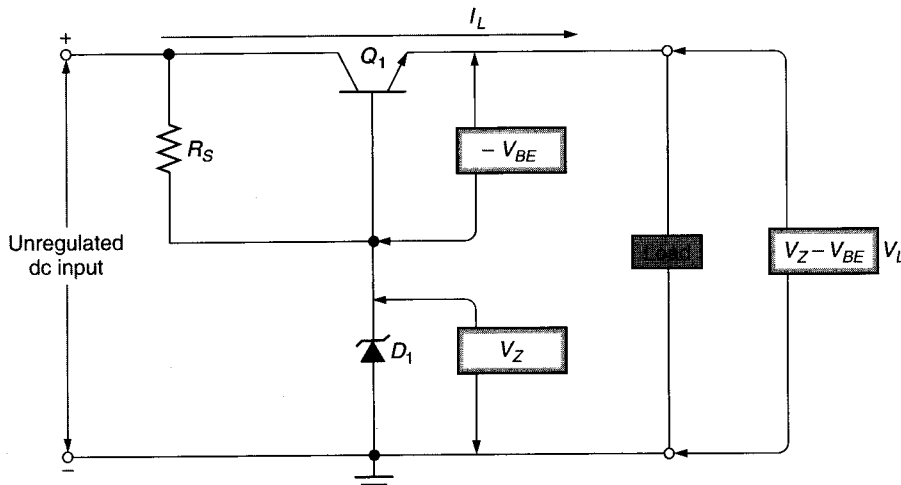
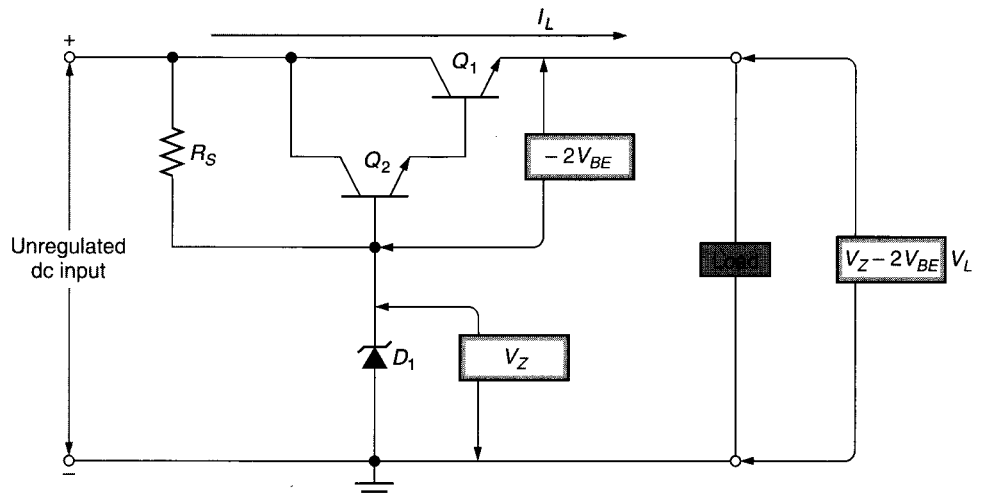

FIGURE 21.4 Pass-transistor regulator.
FIGURE 21.5 Darlington pass-transistor regulator.
The **pass-transistor regulator** uses a series transistor, called a *pass-transistor*, to regulate load voltage. The term *pass-transistor* is used because the load current passes through the series transistor,  $Q_1$ , as shown in Figure 21.4.
The pass-transistor regulator in Figure 21.4 has relatively good line and load regulation characteristics, but there is a problem with the circuit. If the input voltage or load current values increase, the zener diode may have to dissipate a relatively high amount of power. You see, increases in  $V_{in}$  or  $I_L$  result in an increase in zener conduction. The increased zener conduction results in higher power dissipation by the device. This problem is reduced by the use of the *Darlington pass-transistor regulator*.
The **Darlington pass-transistor regulator** uses a Darlington pair ( $Q_1$  and  $Q_2$ ), in place of a single pass-transistor, as shown in Figure 21.5. The load voltage for the Darlington circuit is found as
Since the total current gain of a Darlington pair is equal to  $h_{FE1}h_{FE2}$ , an increase in load current causes very little, if any, increase in zener current. Therefore, the regulator in Figure 21.5 is not subject to the same power concerns as the regulator in Figure 21.4. However, zener conduction is affected by temperature and the zener current is applied to the high-current-gain Darlington pair. As a result, the load current in the Darlington pass-transistor regulator can be severely affected by significant increases in operating temperature. For this reason, the Darlington pass-transistor regulator must be kept at a relatively constant temperature.
2. Describe how the pass-transistor regulator in Figure 21.4 responds to a change in load resistance.
7. How would the circuit shown in Figure 21.4 respond to slight variations in line voltage?